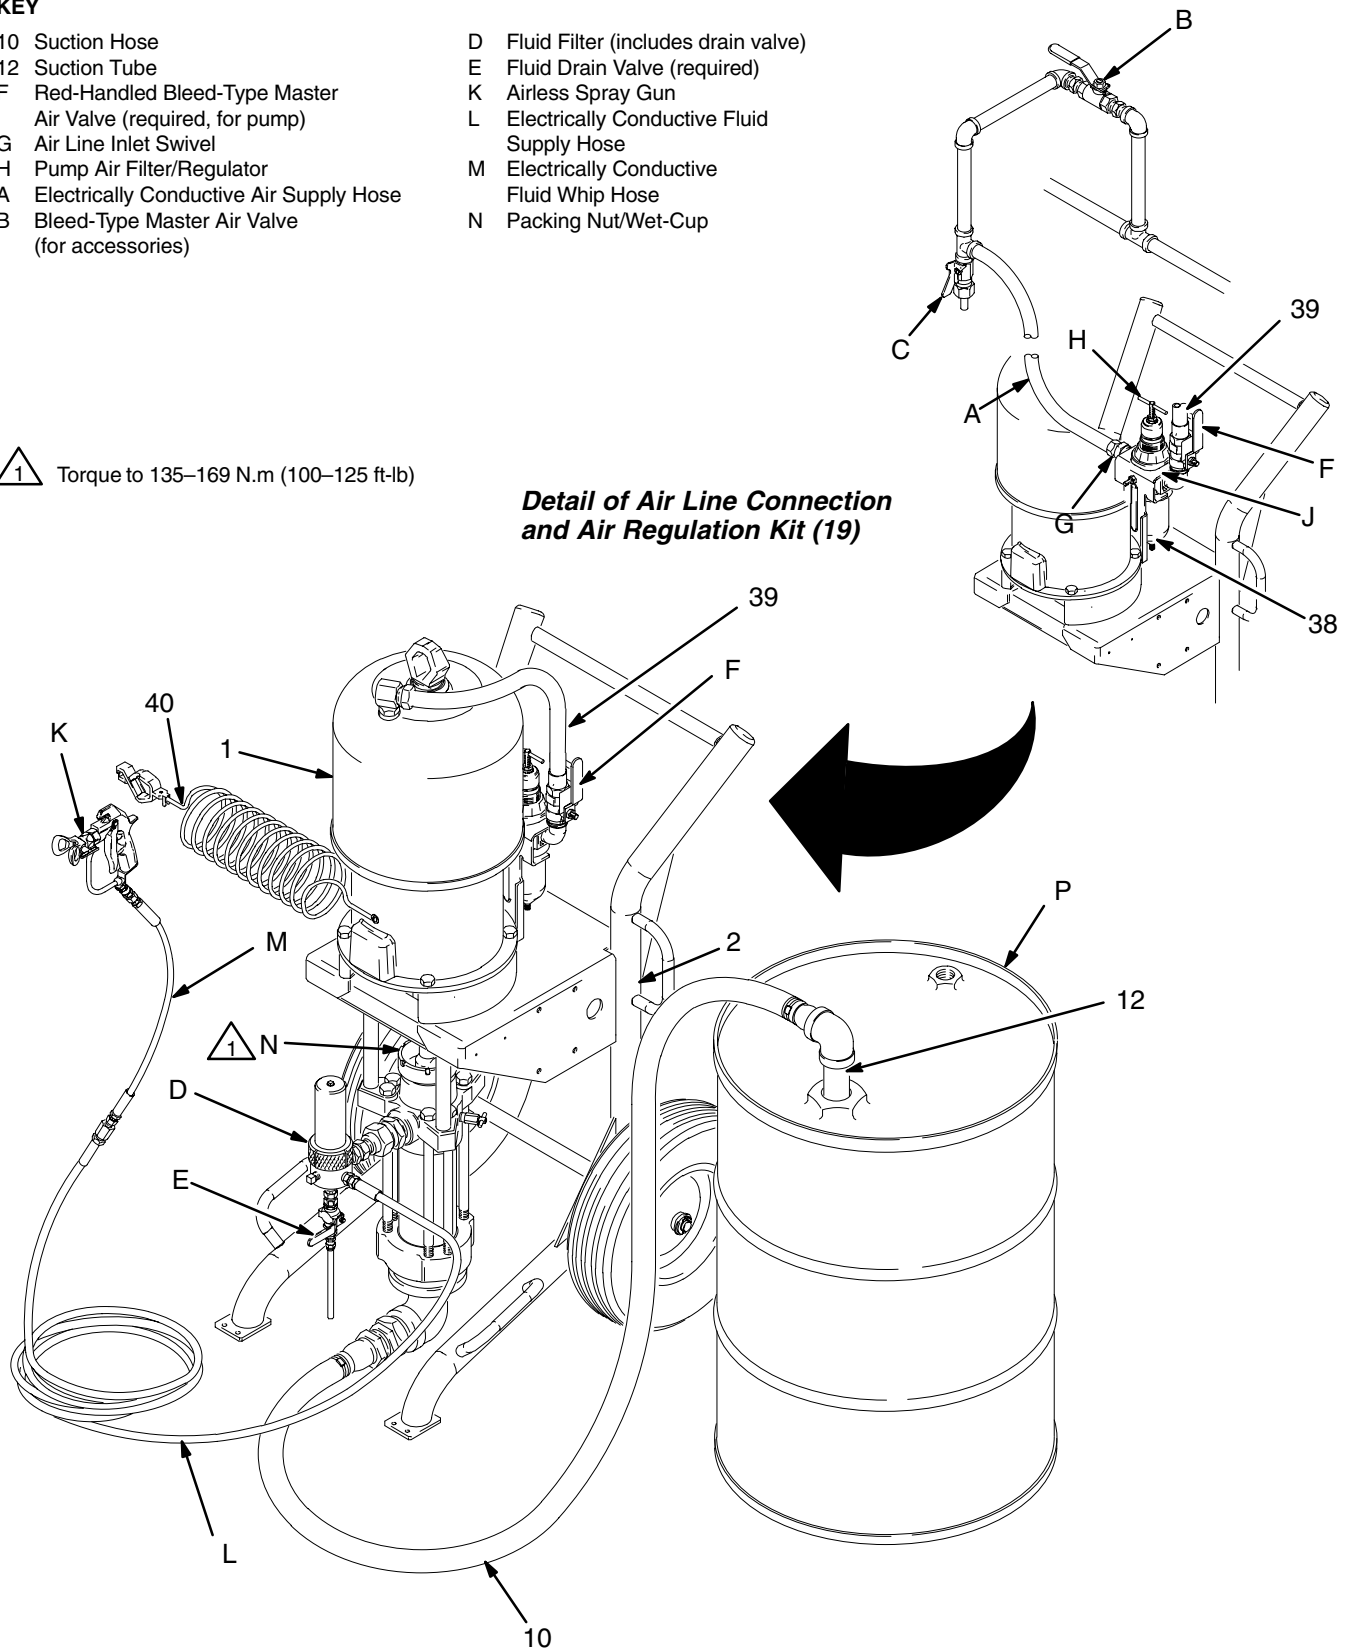

Fig. 3
Before starting, fill the packing nut (N) 1/3 full with Graco Throat Seal Liquid (TSL) or compatible solvent. See Fig. 3.
1. See Fig. 3. Remove the tip guard and spray tip from the gun (K). See the gun instruction manual.
2. Close the air filter/regulator (H) and bleed-type air valves (B, F).
3. Close the fluid drain valve (E).
4. Connect the air line (A) to the air inlet swivel (G).
6. Place the suction tube (12) into the fluid supply container.
8. Hold a metal part of the gun (K) firmly to the side of a grounded metal pail and hold the trigger open.
9. Slowly open the air filter/regulator (H) until the pump starts.